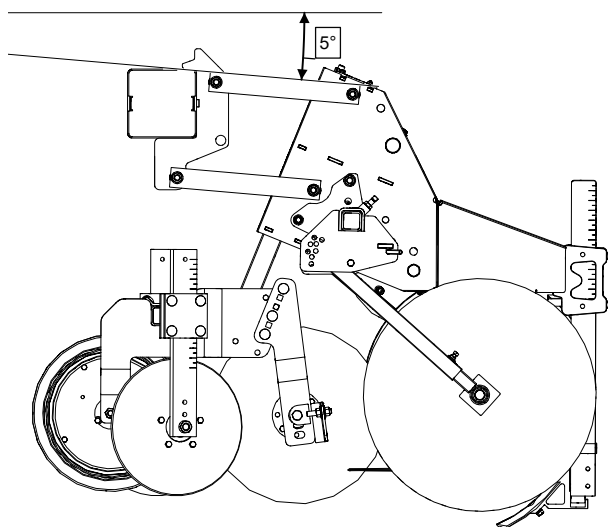

Figure 17 Operating Position
2. Adjust tractor 3-point hitch and frame gauge wheels so that cultivator linkage operates approximately 5 degrees from level as shown in Figure 17.